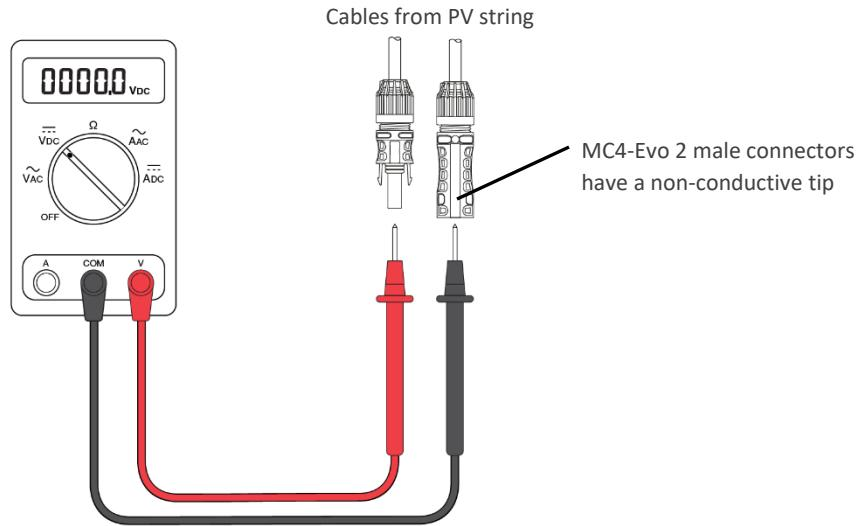

Figure 13: Check the polarity and gender for PV string
- Follow your safety procedures and protocols and use an appropriately rated multimeter to measure the voltage and verify the polarity for the string(s) of modules being connected to Input 2. See Figure 13.